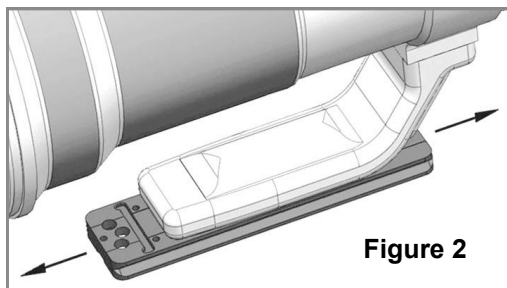
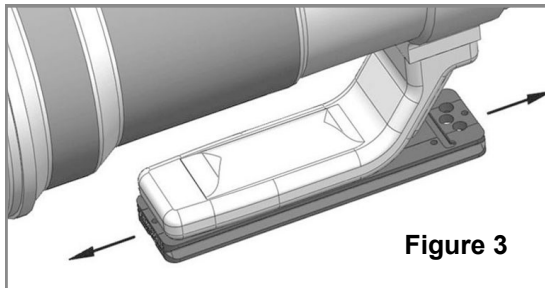

Figure 2
Figure 3
**Positioning the plate on your lens:** The plate position can be adjusted on the lens foot to suit your needs. It can be positioned either **facing forward** (Fig. 2) or **facing backward** (Fig. 3). The plate's elongated center slot allows you to adjust the back and forth position of the plate on the lens foot (illustrated with arrows in Fig. 2 & 3) while the screws are still engaged. Loosen the screws just enough to free up the plate then position the plate so that you: